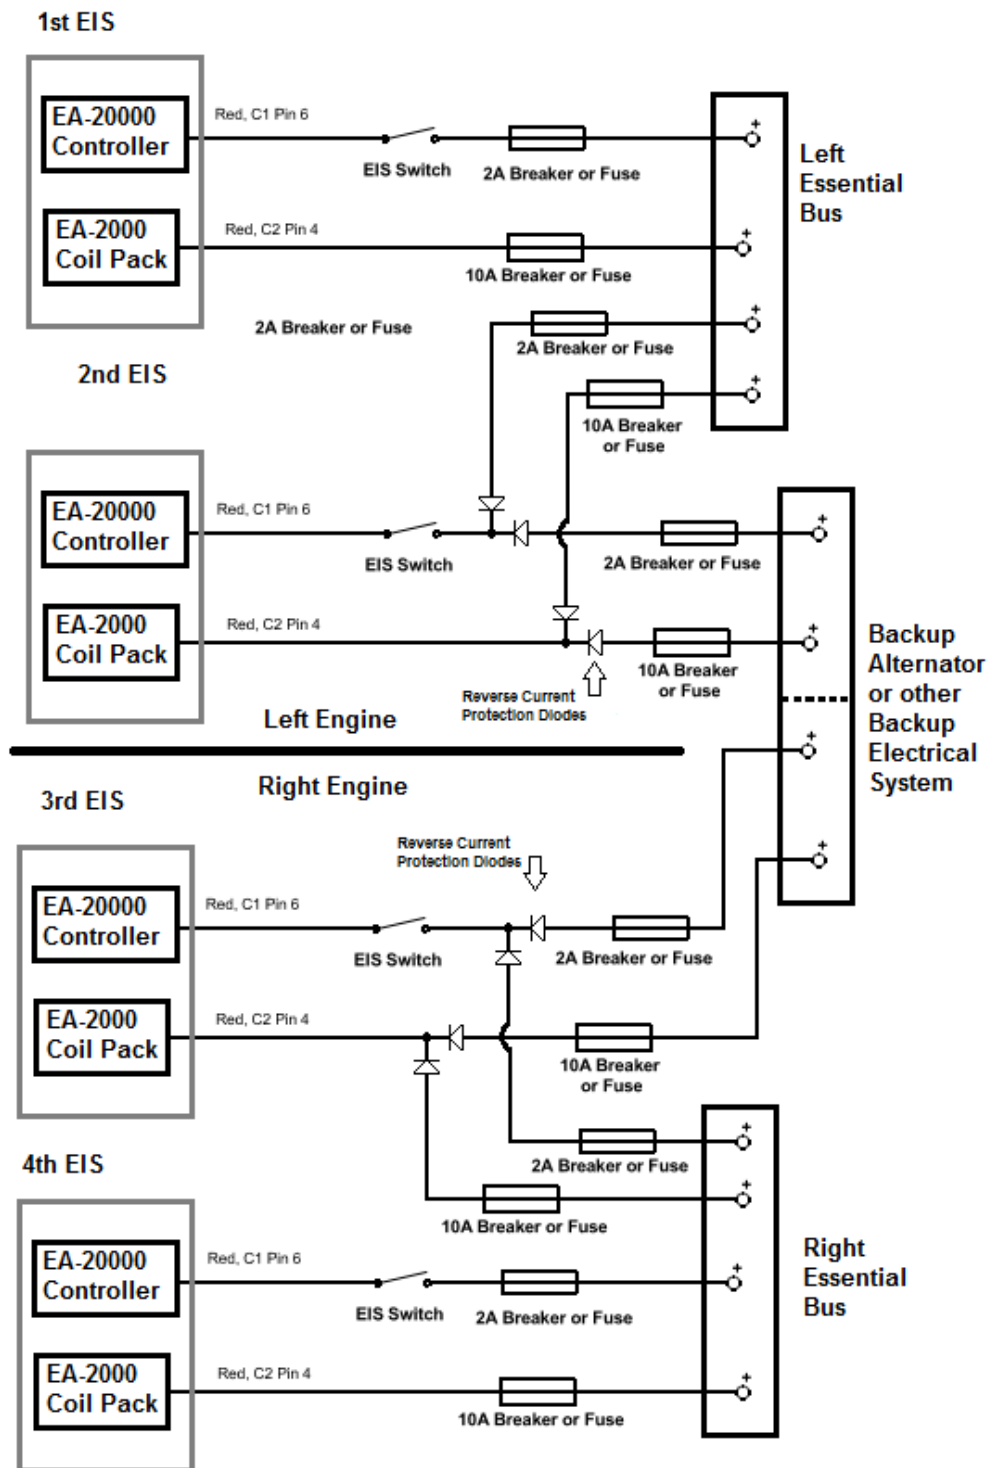

Figure 42: Twin Engine, Dual EIS, Dual Electrical System Power Connections
- v. **Dual EIS installation on both (twin) engines with dual electrical systems:** At least one backup alternator or backup electrical system will be needed. Connect C2-Pin 4 and C1-Pin 6 of one EIS from each engine to one electrical system (through 10A and 2A breaker or fuses). Connect C2-Pin 4 and C1-Pin 6 of one EIS on each engine to the backup alternator(s) using current protection diodes, or backup electrical system(s) (through 10A and 2A breaker or fuses). See Figure 42.